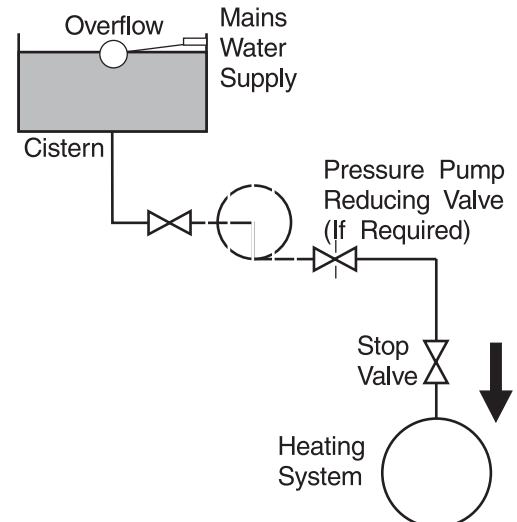

Fig.10
- where access to a make-up vessel would be difficult by using the mains top up method or a remote automatic pressurisation and make-up unit as shown in Fig. 10.
The system shall be fitted with a filling point at low level which incorporates a stop valve to BS 1010 and a double check valve of an accepted type to be fitted in this order from the system mains, see Fig. 10.